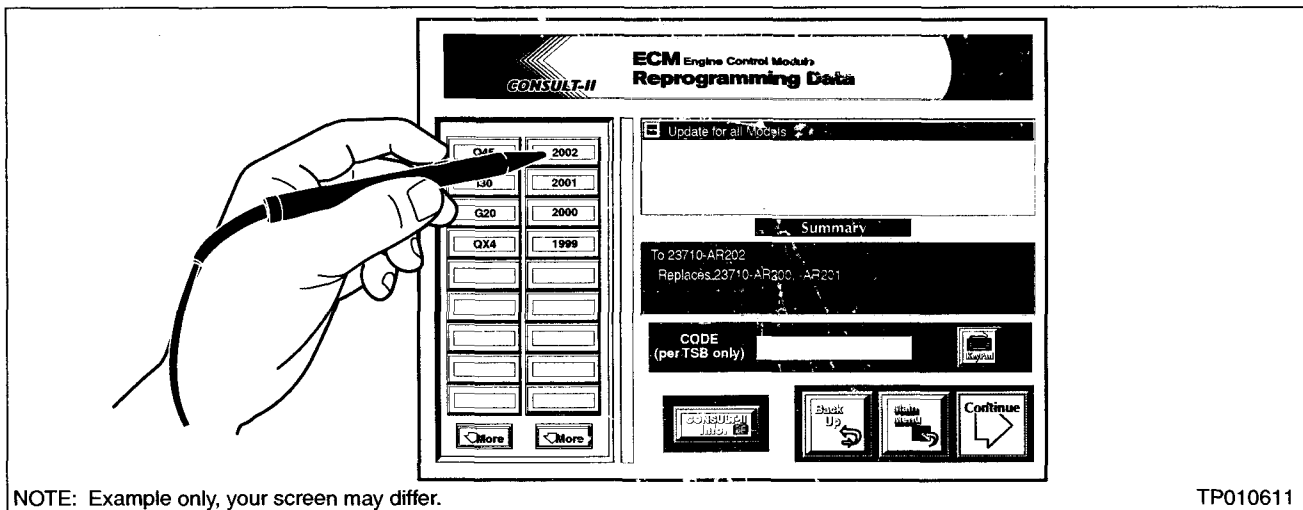

Figure 8
7. The "ECM DATA REPROGRAMMING" screen will be displayed (see Figure 8):